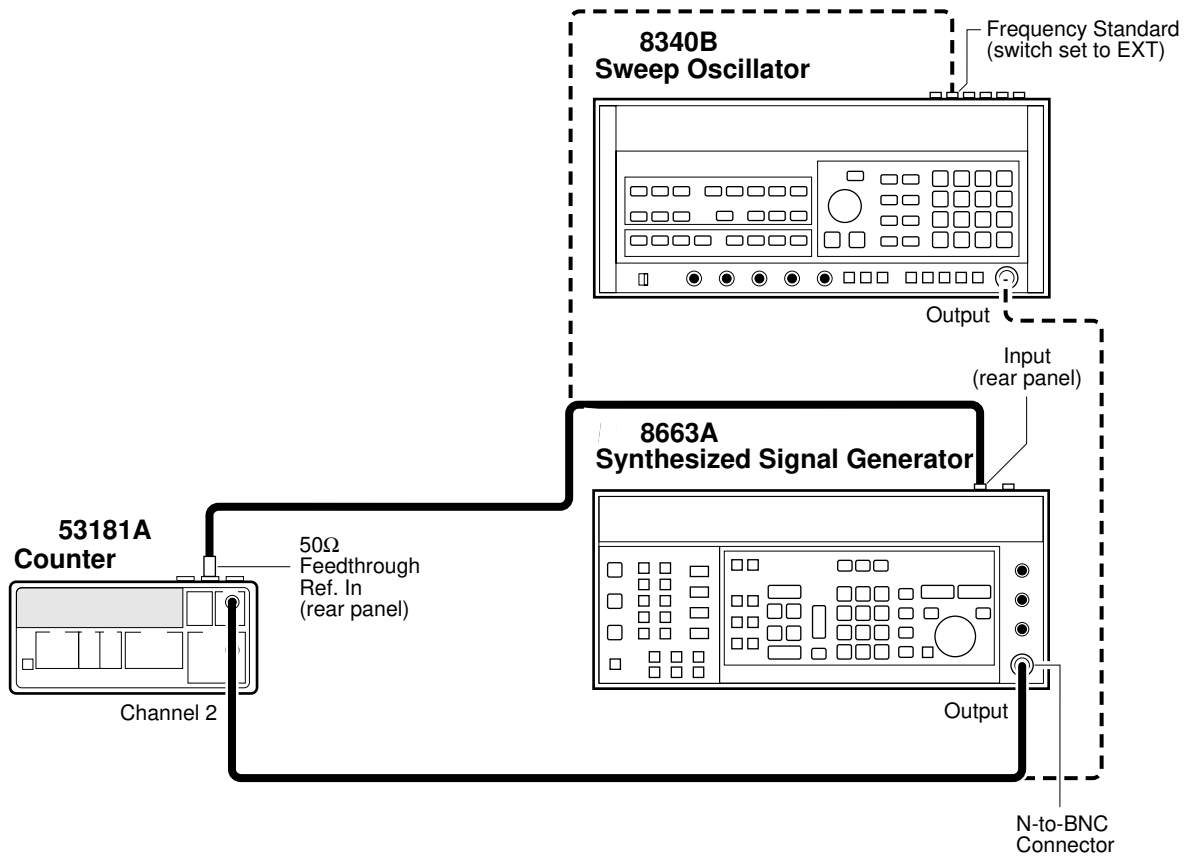

Figure 1-15. Option 015/030/050/124 Channel 2 Frequency Accuracy Test Setup
- 1 Connect equipment as shown in Figure 1-15.
- 1 **Connect equipment as shown in Figure 1-15.**
- 5 **Disconnect the Agilent 8663A output from Channel 2 of the Counter, and connect the Agilent 8340B Sweep Oscillator output to Channel 2 of the Counter as shown in Figure 1-15.**